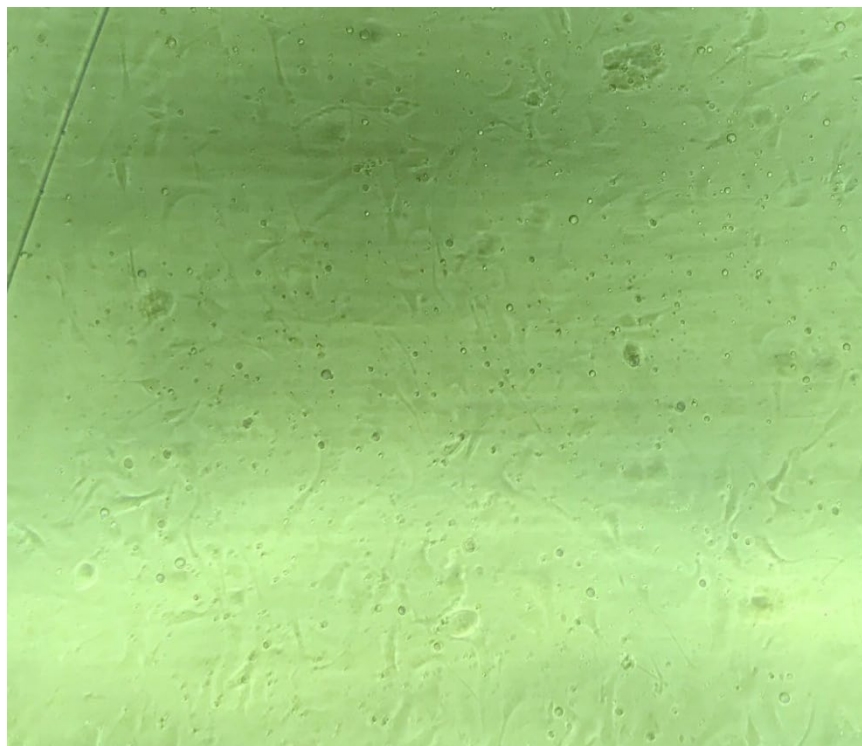

Figure 16. Optimal NPC attachment in the bottom channel.
2. Image several representative Emulations to ensure proper NPC attachment is observed. See Figure 16. for examples of NPC attachment in the bottom channel.